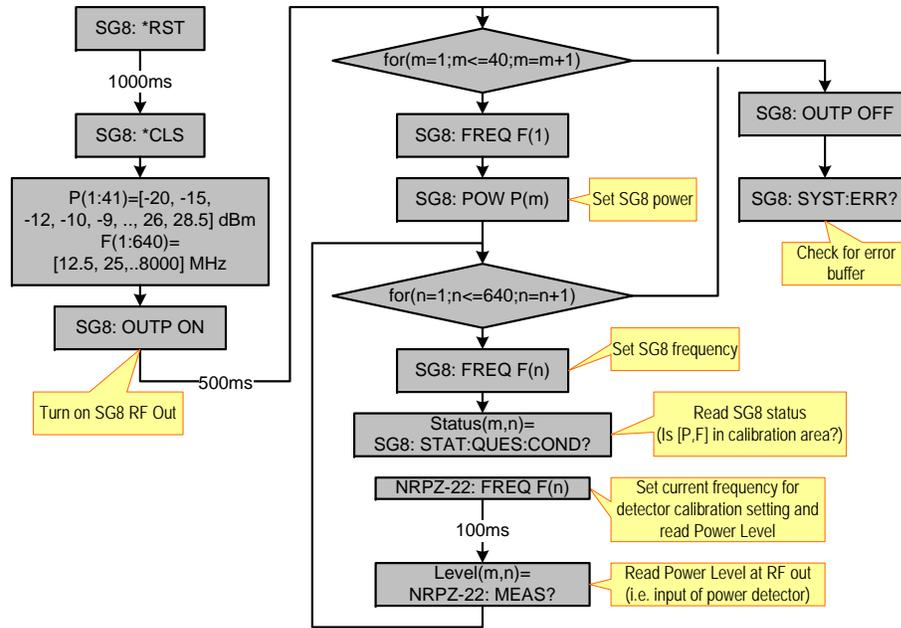

Figure 5: SG8 Level Scan algorithm
3. Launch **SG8_Level_Scan** application, specify start, stop and step values, and click “Scan” button. The algorithm is shown in figure 5. The application has the following files on its output: **SG8_level_<Serial_No>.csv** and **SG8_status_<Serial_No>.csv**. File **SG8_level_<Serial_No>.csv** contains measured power level at given frequency and power which were set to SG8. First row of the file contains the list of frequency values in MHz, first column of the file contains the list of power values in dBm which were set to the instrument (table 3). Values are delimited by semicolon “;”. File **SG8_status_<Serial_No>.csv** has the same format as described above, but contains status of measured values. Zero value means that point corresponding to the frequency and power which were set, is in calibration area, other value means that measured point is outside of calibrated area.